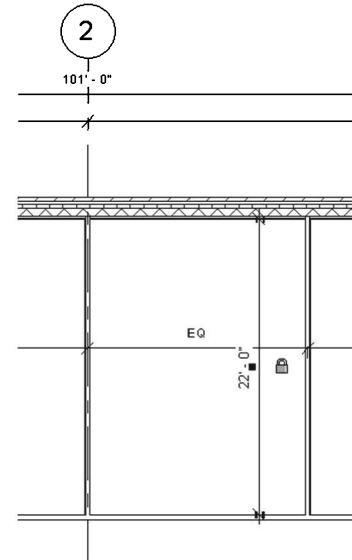

FIGURE 2-1.19 Locking dimensions
52. Add a vertical “clear” dimension to indicate the depth of the rooms. Set *Prefer* to **Wall Faces** for both ends of the dimension line. See Figure 2-1.19.
53. Click the **padlock** symbol () to tell Revit this dimension should not change (Figure 2-1.19).